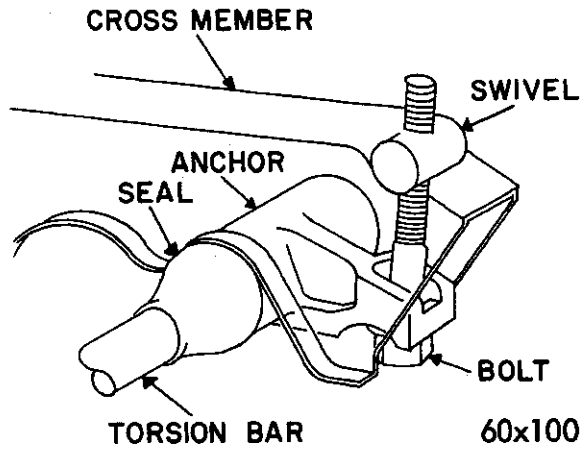

Fig. 2—Torsion Bar Adjustment Bolt
(3) Adjust, if necessary, by turning the torsion bar anchor bolt clockwise to increase the height and counter-clockwise to decrease the height (Fig. 2). If it is necessary to adjust the anchor bolts, measure the torque required to move the bolt clockwise. If it requires over 200 foot-pounds, replace the anchor adjusting bolt.
(4) After adjusting, jounce the vehicle and re-measure, even though only one side may have been adjusted.
(1) Place a jack under the center of the front cross-member and raise the vehicle off the floor, so the front suspension is in full rebound (under no load).
(2) Release the load from the torsion bar by backing off the anchor adjusting bolts (Fig. 2). Remove the bolt and swivel and discard.
(5) Install the torsion bar (Fig. 2).
(6) Turn the torsion bar until the anchor end is positioned approximately 120 degrees (eight o'clock or four o'clock position) down from the frame.
(7) Engage the front end of the bar in the hex opening of the lower control arm. If the anchor end is not in the position just described when installing the torsion bar, it will be impossible to adjust the front suspension to the correct height.
(8) Before installing the lock ring, center the bar so that full contact of the hex ends is obtained at the anchor and arm shaft. Install the lock ring, making sure it is seated in its groove.
(9) Pack the annular opening in the rear anchor completely full of Multi-Mileage lubricant. Position the lip of the seal in the groove in the anchor hub. Install the plastic seal into the rear end of the torsion bar anchor.
(10) Slide the adjusting bolt swivel in position on the frame. Hold in position while installing the new adjusting bolt and seat. Tighten the bolt into a new swivel until approximately 1 inch of threads are showing out of the swivel. This is an approximate setting and is to be used only as a starting point when adjusting for correct height. This setting is also necessary to place a load on the torsion bar before lowering the vehicle to the floor.
(11) Lower the vehicle to the floor, then measure and adjust the suspension as required (Paragraphs 2 and 3).